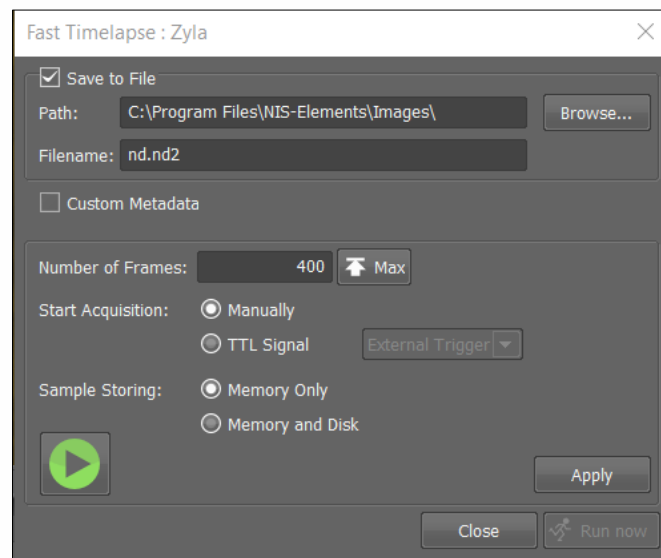

Figure 14: Fast Timelapse mode maximises imaging speed
2. Data can be saved to PC memory only. Navigate to 'Acquire', 'Fast Timelapse' and for 'Sample Storing', select 'Memory Only'. Enter the total frame number of your experiment into 'Number of Frames' and select 'Run now' (Figure 14).